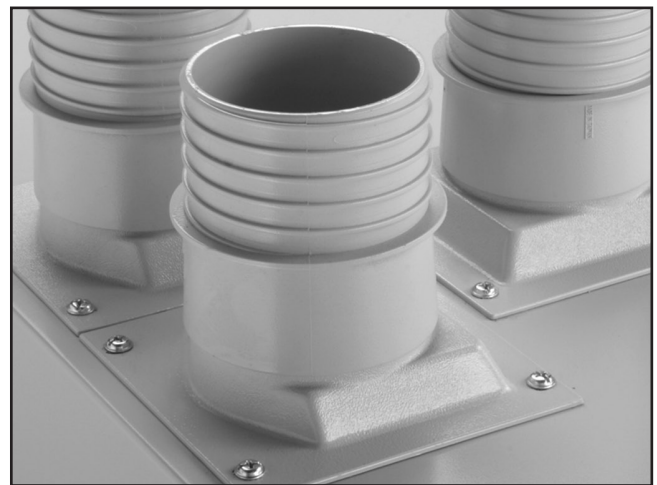

Figure 12. Typical three-port configuration.
1. Install the dust ports (**Figure 12**) to the mounting locations on the top of the sanding unit with the supplied M6-1 x 10 Phillips head screws.